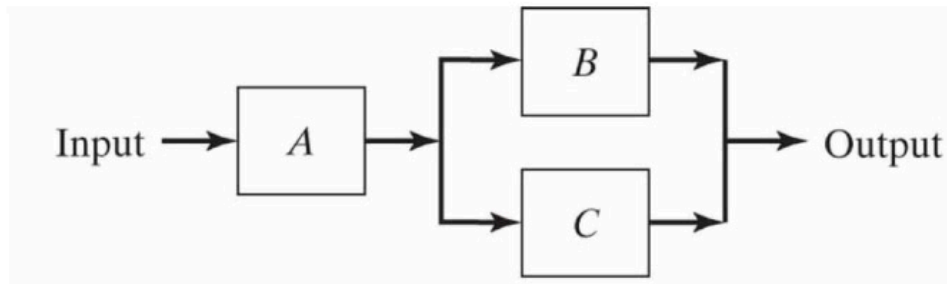

Figure 1: Series-parallel network.
- In the system configuration depicted in figure 1